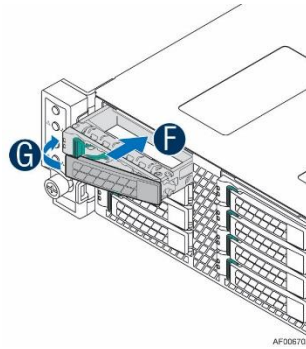

Figure 43. Installing a 2.5" HDD or SSD – inserting the carrier assembly
4. With the lever open, insert the carrier assembly into the chassis (F) and push in the lever to lock it into place (G) as pictured in Figure 43.